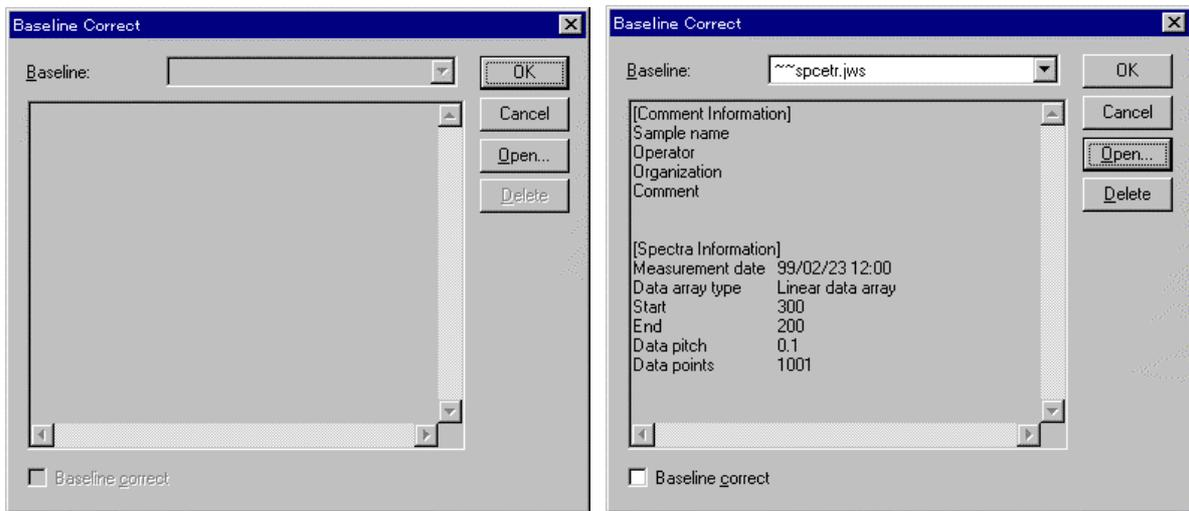

Fig. 4.9 [Baseline Correct] dialog box
- <Open...> Baseline data saved on the disk is loaded into memory. When data is loaded, [Baseline correct] is activated (right screen in Fig. 4.9).
- <Delete> Deletes baseline data. Clicking on it displays the following dialog box. Clicking on <Yes> deletes the baseline data (left screen in Fig. 4.9).